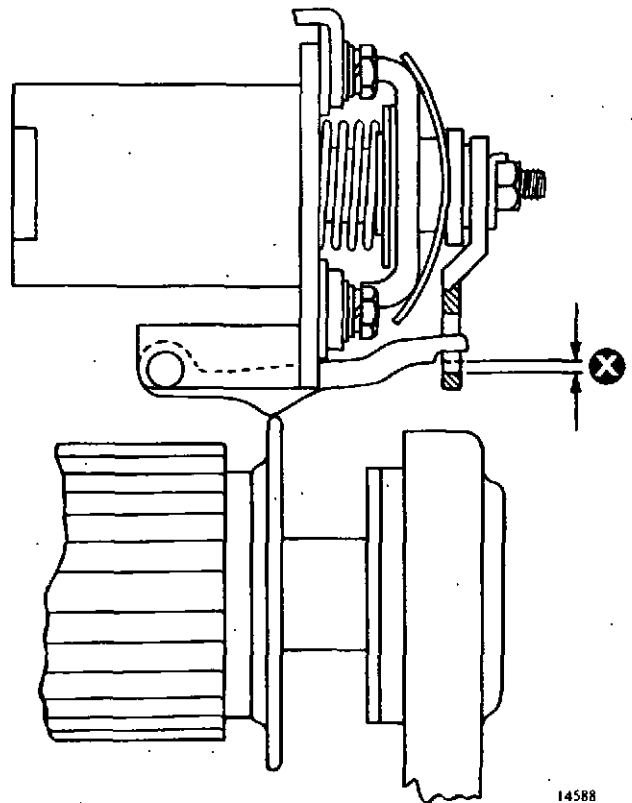

Fig. 30 C.A.V. solenoid trigger
Referring to fig. 29 and fig. 30, check the relationship of the trigger (19) and tripping disc (30) by pulling the armature forward until the trigger is raised to its highest extent by the tripping disc. There should then be an adequate clearance ('X') between the shoulder on the trigger and the bottom of the slot in the catch plate.